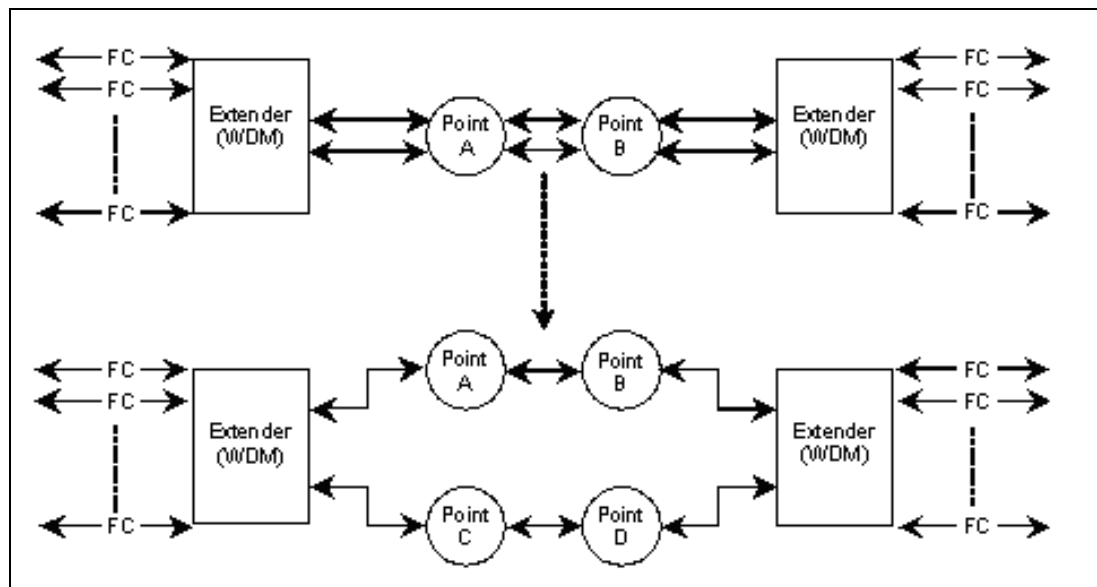

Figure E-3: Dark Fiber Failure
- If switching is executed during a dark fibre failure, data transfer must be moved to another path, as shown in Figure E-3.